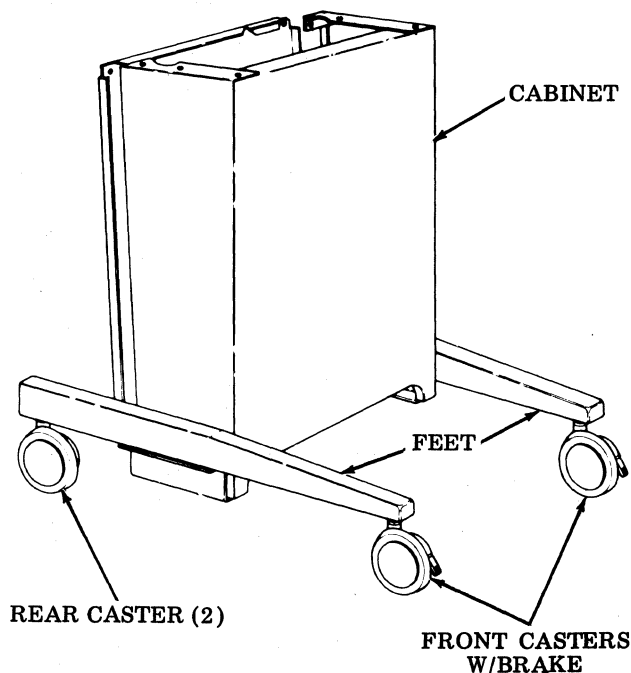

Figure 15 - 186226 Modification to Provide Mobility
2.60 The 186226 modification kit provides a set of casters for a Model 33 Set when it is necessary that the set be easily moved between operating locations (Figure 15).
2.62 There is a brake on the two front casters of the kit for use during unit operation. (See Figure 15.)